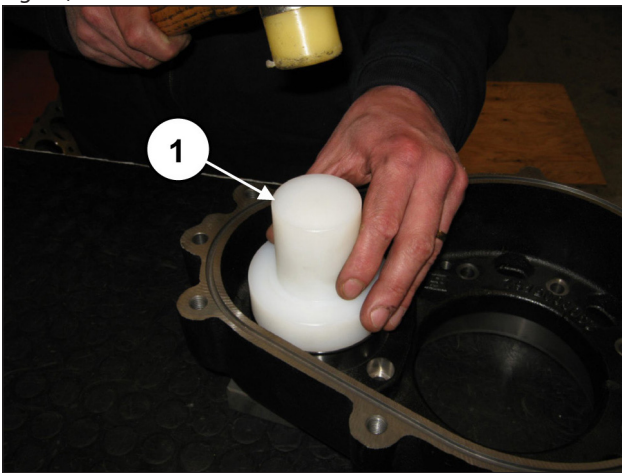
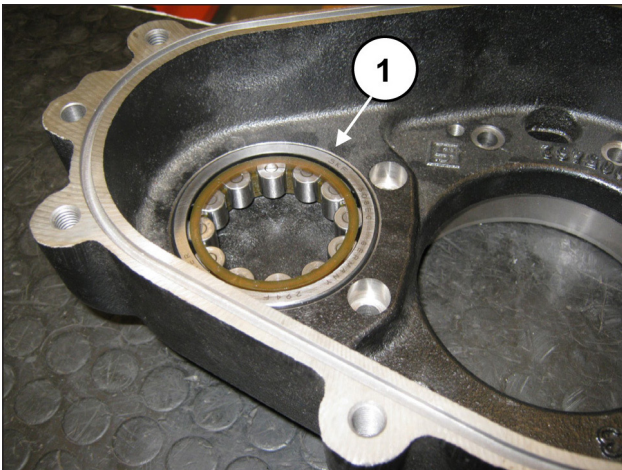

Fig. 51
Fig. 52
Pre-assemble the outer ring of the pinion bearing on the reduction gear with the aid of special tool code 27604900 (pos. ①, Fig. 51) inserting fully down to end stroke (pos. ①, Fig. 52).